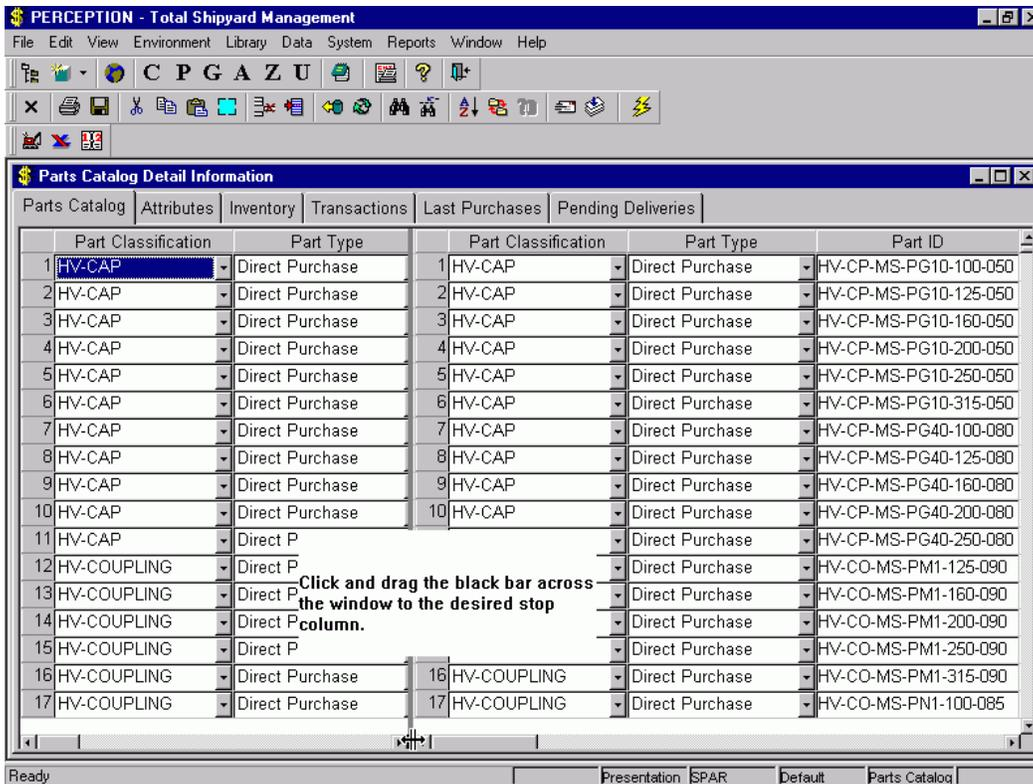

Figure 3-9: Horizontal Split Scrolling
- **Horizontal Split Scrolling** allows the user to set a second horizontal scroll bar at the bottom of the worksheet (Figure 3-9).